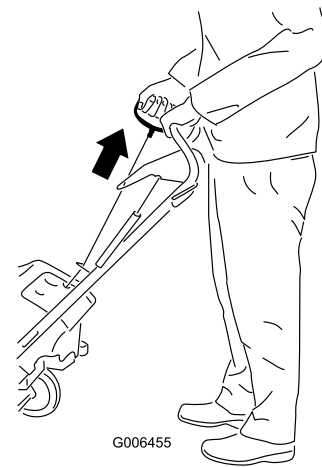

Figure 16
4. Pull the recoil-start handle (Figure 16).